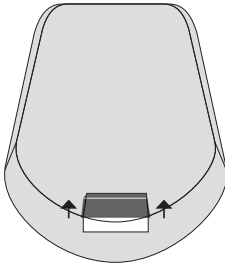
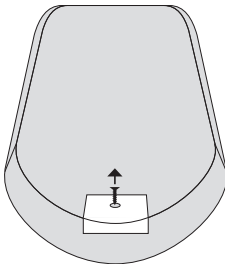

Fig. No. 2
Fig. No. 3
Remove the small blue lid located on the front side of the enclosure by pulling the lid up. (see Fig. No. 2).
Unscrew the front side of the enclosure (see Fig. No. 3).
- Close EWS2 enclosure (see Fig. No. 4, Fig. No. 3, Fig. No. 2)